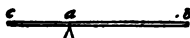

FIG. 20.
1. In Fig. 20, $ab = 10$ inches, $ac = 2$ inches, $p = 20$ pounds: find w .
2. In Fig. 20, $bc = 22$ inches, $p = 40$, $w = 400$: find ac .
3. In Fig. 20, $ab = 12$ inches, $ac = 3$ inches, $w = 40$ pounds: find p .
4. In Fig. 20, $p = 16$, $w = 240$: find the *leverage*.